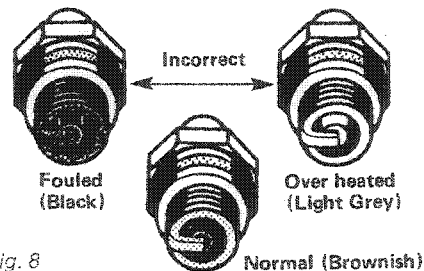

Fig. 8
2. Check condition of plugs. (See Fig. 8).